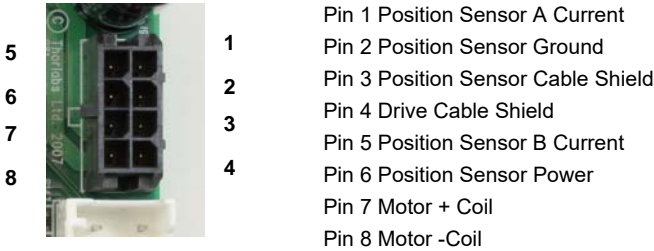
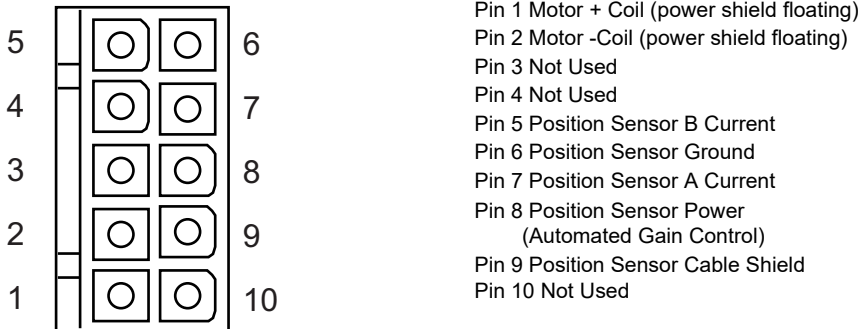

Fig. 3.14 J9 Motor Connector Pin Identification.
Fig. 3.15 Galvo Assembly Motor Connector Pin Identification
- 3) Note the serial numbers of the galvo motors and driver boards, then connect the galvo motors to their associated driver boards. If using a custom cable, the pin outs for the connector on the Driver PCB and the Motor connector are detailed in Fig. 3.14 and Fig. 3.15 respectively.